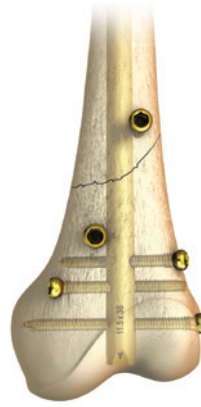

Figure 12
2. Obtain both A/P and lateral radiographic images to confirm accurate placement (Figures 12 and 13).